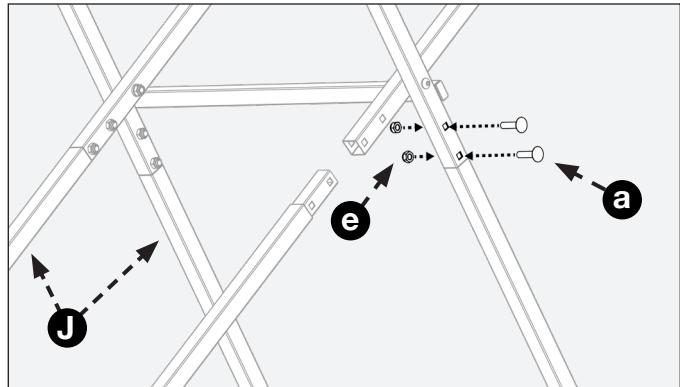

FIGURE 3
With assembled stand open, attach legs (J) to the stand using (eight) M8 x 35mm carriage bolts (a) and (eight) M8 lock nuts (e). Tighten lock nuts to secure legs to stand (Fig. 3.).